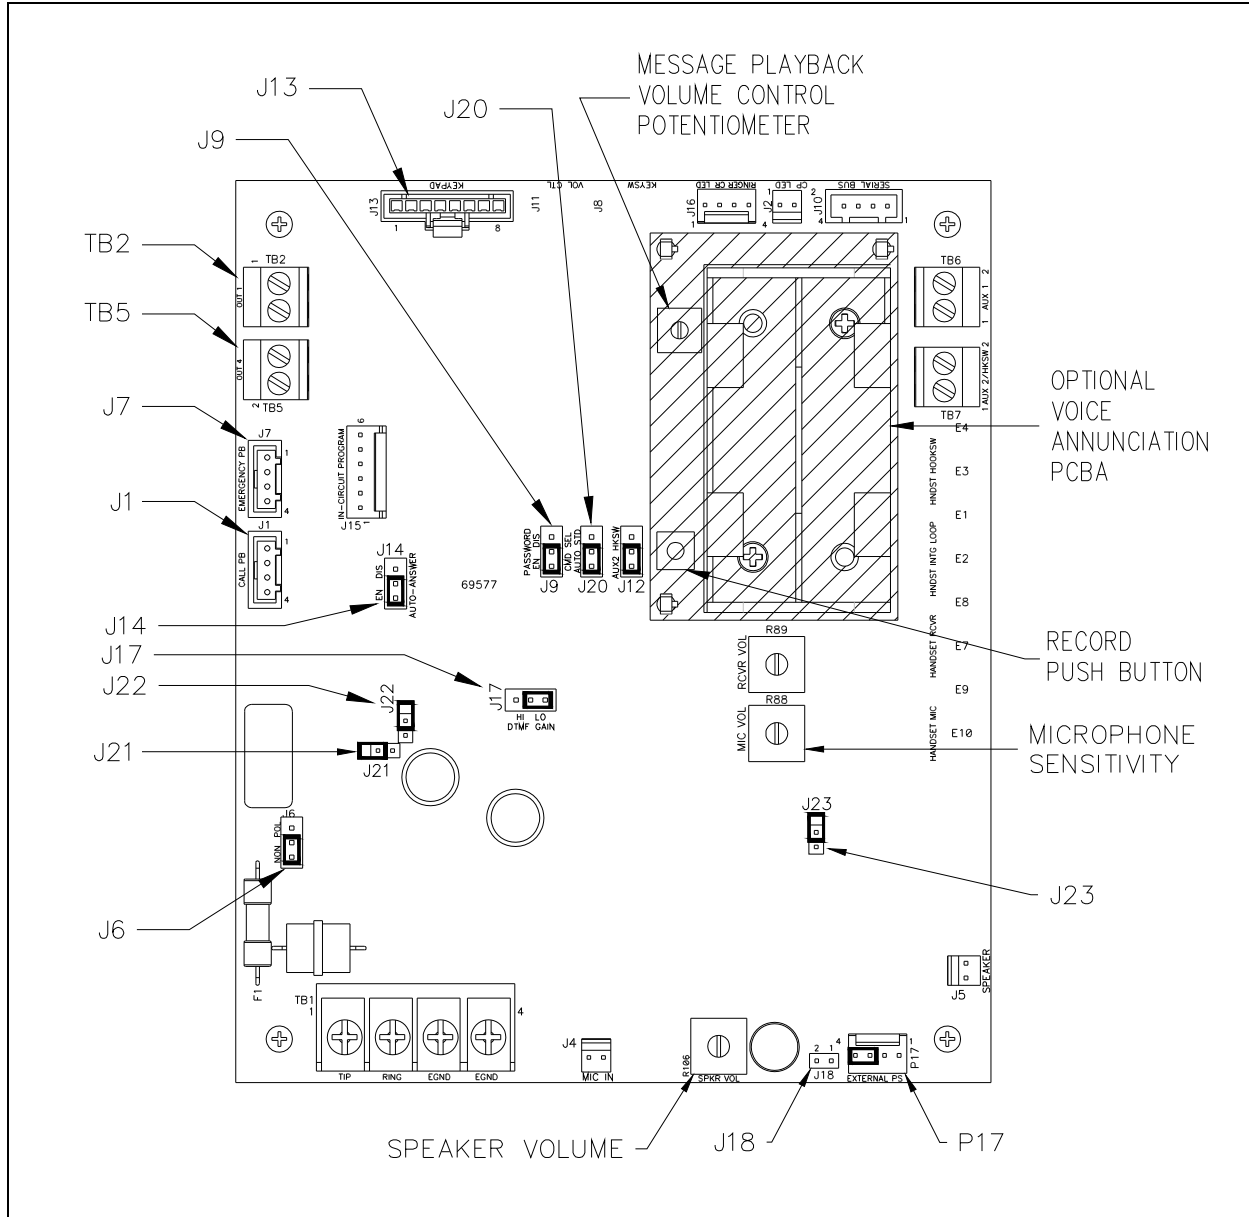

Figure 33. No. 69577-101 Emergency Telephone PCBA (Top View)
2. Adjust the audio levels, if necessary (see Figure 33 for the Speaker Volume and Microphone Sensitivity potentiometer locations).
2. Adjust the audio levels if necessary (see Figure 33 for the Speaker Volume and Microphone Sensitivity potentiometer locations).
2. Plug the jumper into the adjacent J18 header (see Figure 33 for the connector locations).
The hardware configuration options are explained in the following sections and the necessary jumper settings are identified to enable or disable each option. Read each section and record the selected options (see Table 3) prior to making the necessary changes (see Figure 33 for the jumper locations).
Each telephone includes two isolated solid-state switches capable of switching a maximum of 125 mA at 48 V dc or 80 mA at 28 V ac. TB2 (OUT1) and TB5 (OUT4) on the emergency telephone PCBA provide the connections for the auxiliary outputs (see Figure 33).
Output one connects to terminal block TB2 on the telephone's PCBA (refer to Figure 33). This output closes when an emergency call begins (HELP push button activation only) and remains in that state for the duration of the telephone call. The typical use of this output is to activate the flashing sequence on a GAI-Tronics strobe.
2. Insert two AA lithium batteries (provided with the telephone) into the battery holder of the voice annunciation PCBA, observing proper polarity (see Figure 33).
RED ALERT® telephones not equipped with an integral keypad require a No. 51035-011 Keypad and No. 61504-048 Keypad Cable Assembly (purchased separately) to program these units locally (see Figure 33).